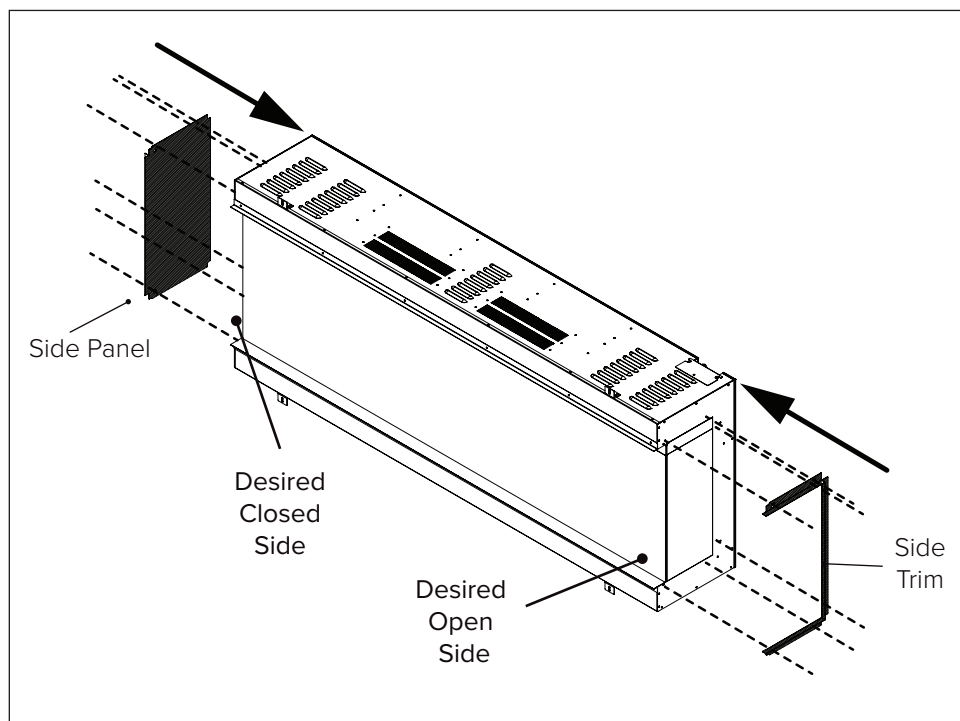

Fig. 5
1. For desired open side, re-secure the side trim using the 6 screws previously removed (**Fig. 5**).
2. For desired closed side, re-secure the side panel using the 6 screws previously removed (**Fig. 5**).